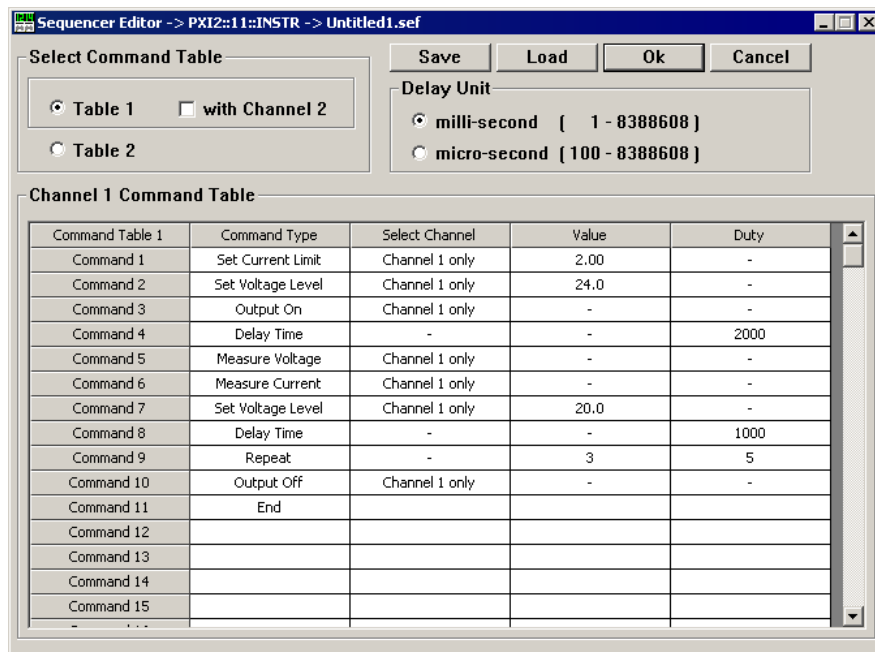

Figure 4-18 Sequencer Table of Example 1
- Step2:** At the menu bar, select **Editor→Sequencer** to edit the sequencer table as in Figure 4-18, and then click on the “Ok” button. (For more details on editing the sequencer table, please refer to **Section 4.3.6.2 “Using Sequencer Editor”**)